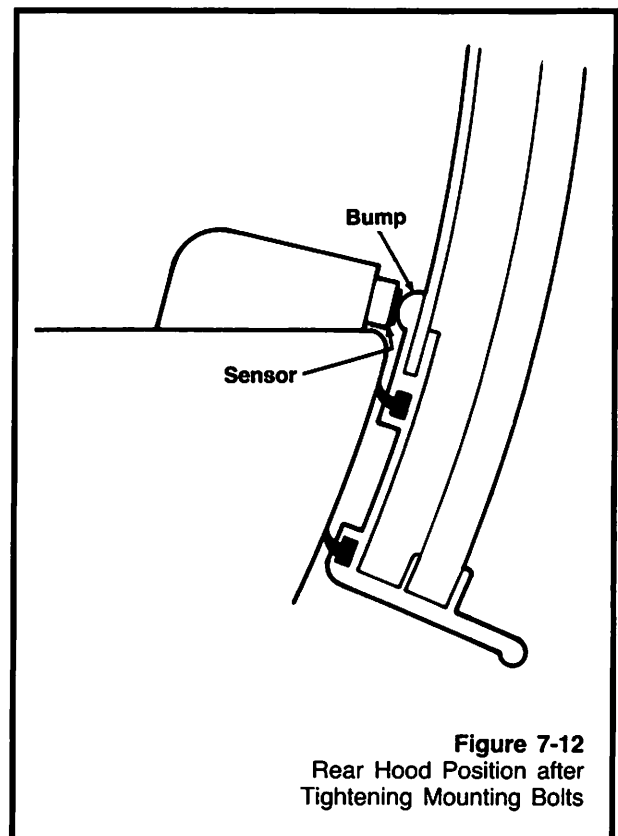

Figure 7-12
a. The front and rear retainer bumps contact the center of the sensors in the closed position (Figure 7-12). If the alignment is not correct loosen the mounting bolts and repeat the procedure from step 4 on.